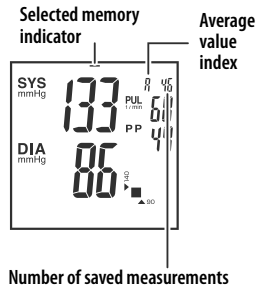

Fig.15
1. Turn off the device by pressing the START/STOP button. To view the results stored in the memory unit 1, press **[1]**, and to view the results stored in the memory unit 2, press **[2]**. The selected memory unit will be underlined on the display. The display shows the average value of stored results indicated with index «**1**» (Fig.15). Average value is displayed when the selected memory unit contains two or more saved measurement results.